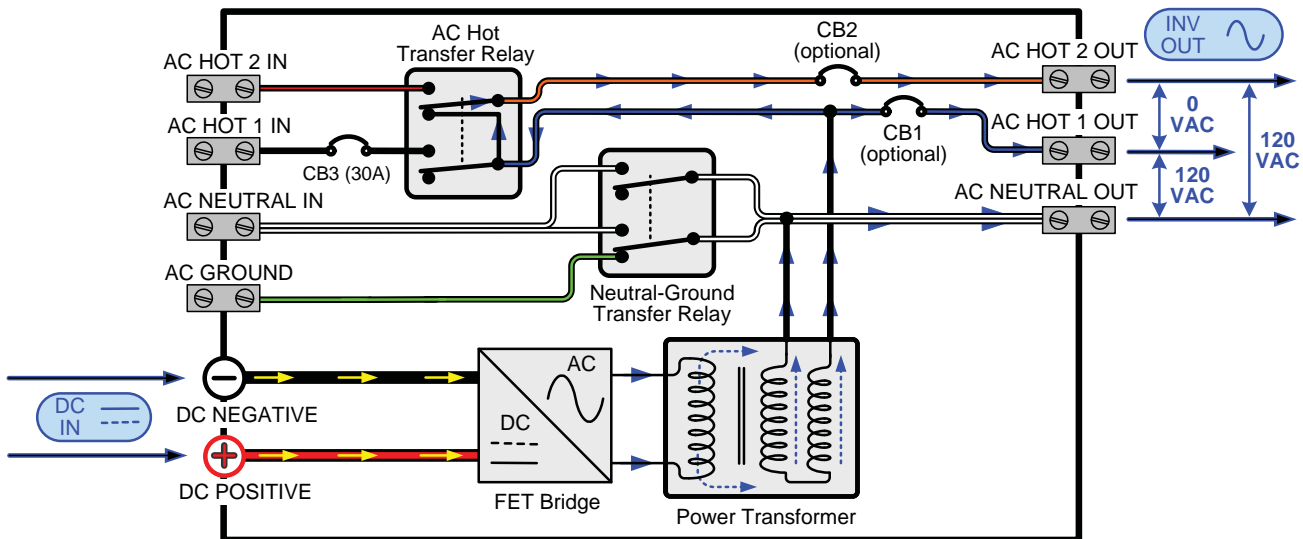

Figure 3-1, Power Flow - Inverter Mode
**Inverting** – When a load greater than 5 watts is connected to the inverter output, the ME Series “inverts” the DC power from the battery and supplies 120 VAC power to your sub-panel. The inverter’s green LED flashes once every 2 seconds (medium flash) to indicate it is inverting. The amount of time the inverter can be inverting and providing power is directly related to the amount of AC loads that are connected, and the capacity of the battery bank. Refer to Figure 3-1 to see the flow of power from the DC input to the AC output while in the Inverter mode.